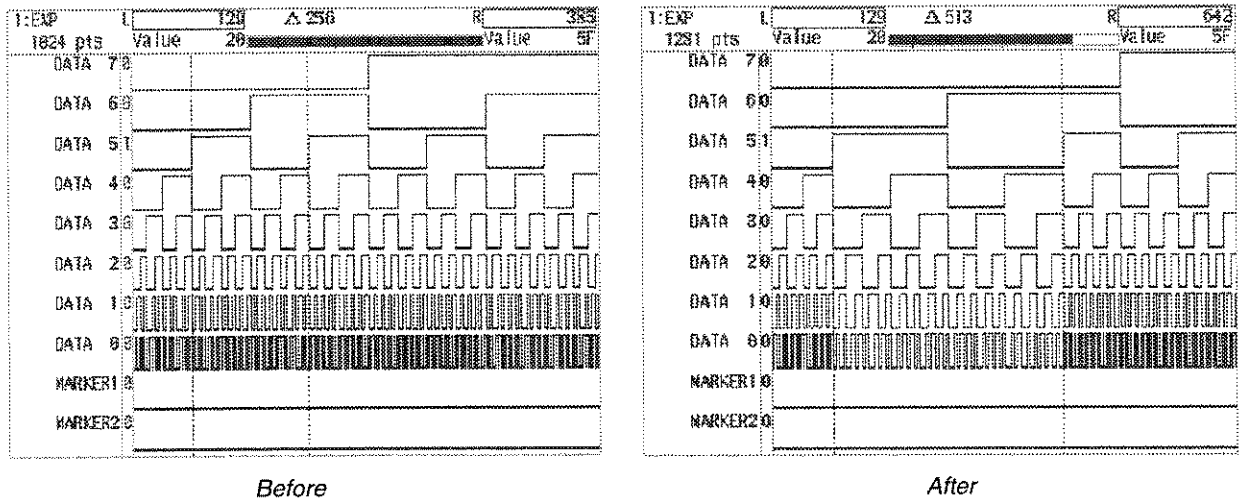

Figure 4A-91: Expanding Waveform Data
- Step 4:** Select **Execute** from the sub-menu. The section of the waveform between the vertical bar cursors will be expanded to the designated degree, and the waveform point size will increase accordingly. Figure 4A-91 shows the screen before and after the data between the vertical bar cursors is expanded by a factor of 2.